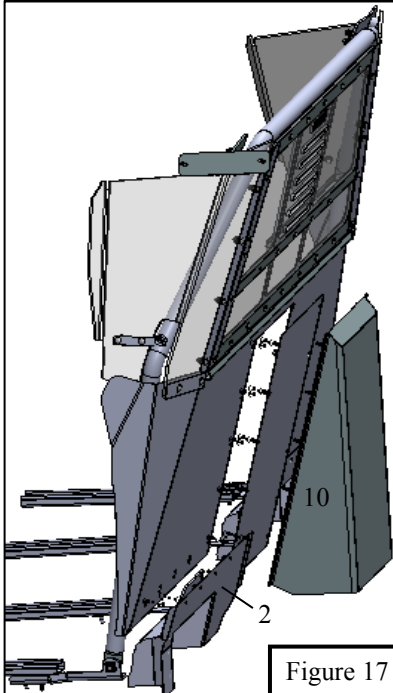

Figure 17
15. Install the recessed panel or flat panel (10) by using the M6 flange nuts (15). Figure 17 & 18.
16. Install the foot packets (2 & 3) by using the M6 flange nuts (15). Figure 17 & 18. Make sure support strap (4 & 5) is installed as shown in figure 18.